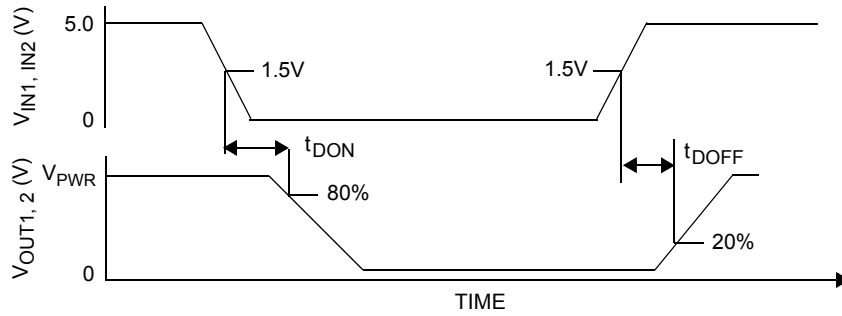

Figure 4. Output Delay Time
23. Output Delay is the time duration from 1.5V on the IN1 or IN2 input signal to the 20% or 80% point (dependent on the transition direction) of the OUT1 or OUT2 signal. If the output is transitioning HIGH-to-LOW, the delay is from 1.5V on the input signal to the 80% point of the output response signal. If the output is transitioning LOW-to-HIGH, the delay is from 1.5V on the input signal to the 20% point of the output response signal. See Figure 4, page 10.